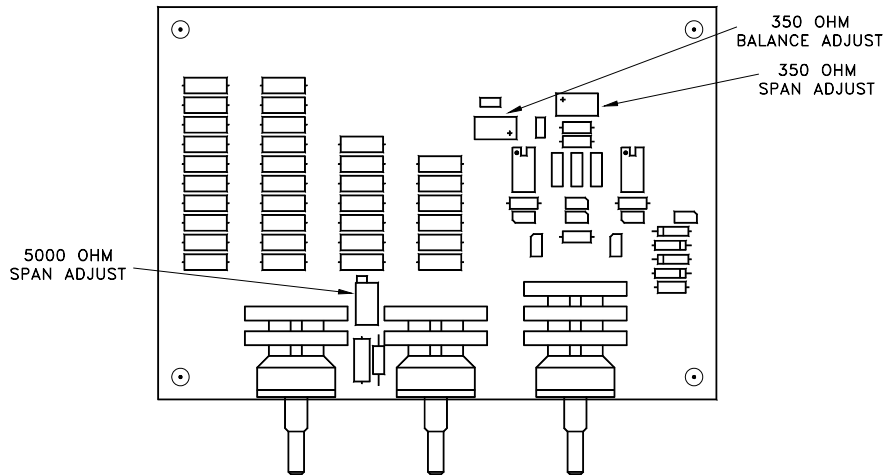

Figure 1-3: Internal Arrangement
6. Locate the “5000 Ohm Span Adjust” potentiometer on the circuit board (see Figure 1-3:“Internal Arrangement” on page 10). Adjust it so that the voltmeter reads as close to 10 mV/V as possible.
9. Locate the “350 Ohm Balance Adjust” potentiometer on the circuit board (see Figure 1-3:“Internal Arrangement” on page 10). Adjust it so that the voltmeter reads 0 μ V to within ± 2 μ V.
12. Locate the “350 Ohm Span Adjust” potentiometer on the circuit board (see Figure 1-3:“Internal Arrangement” on page 10). Adjust it so that the voltmeter reads as close to 10 mV/V as possible.